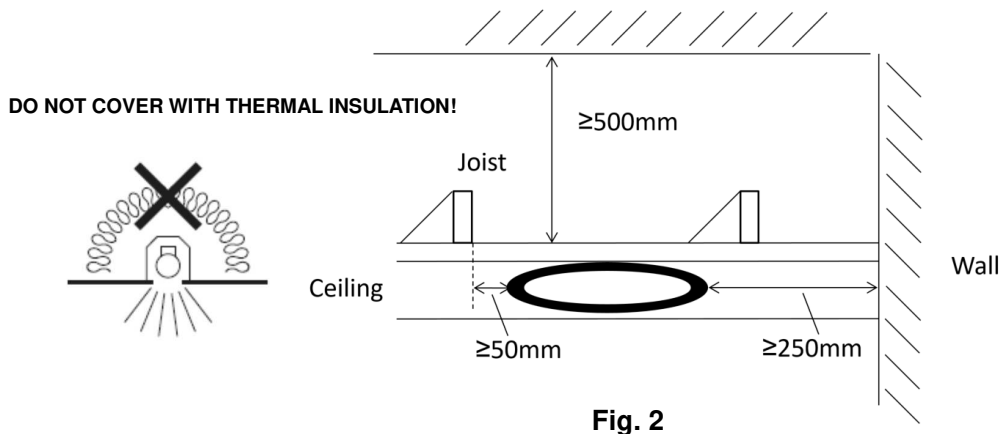

Fig. 2
- Ensure all the clearance values to the structural building element are maintained according to the clearance diagram in Figure 2.
Before installation, please plan and check the ceiling space to make sure that there are no obstructions such as ceiling joists and there is sufficient height clearance for the motor housing. Refer to figure 2 for the clearance requirement.